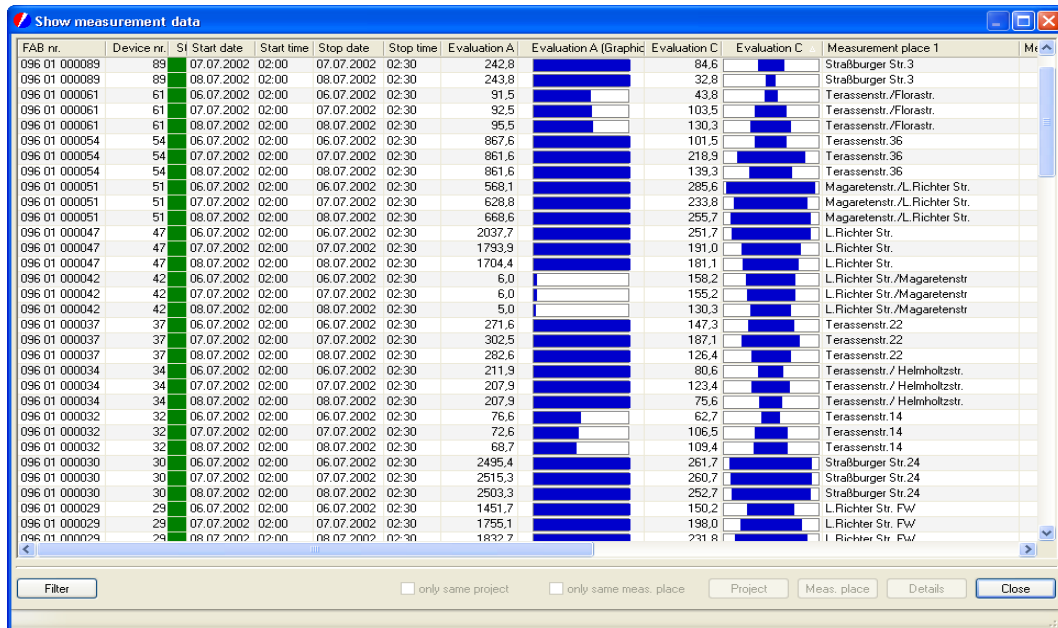

Fig. 31: Show measurement data window
The table in the **Show Measurement data** window can contain up to 31 different measurement parameters (fig. 31). The number and sequence of columns can be determined individually.
- Select a line in the **Show measurement data** window (fig. 31) which is containing measurement data of a particular measurement place or project whose history you want to generate.